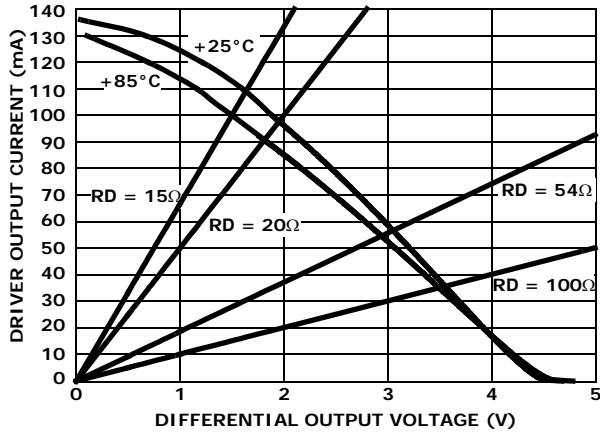

FIGURE 8. DRIVER OUTPUT CURRENT vs DIFFERENTIAL OUTPUT VOLTAGE
- See Figure 8 for more information, and for performance over-temperature.
Figure 8, details the transmitter's V_{OD} vs I_{OUT} characteristic, and includes load lines for six (20 Ω) and eight (15 Ω) 120 Ω terminations. The figure shows that the driver typically delivers 1.65/1.5V into 6/8 terminations, even at the worst case temperature of +85°C. The RS-485 standard requires a minimum 1.5V V_{OD} into two terminations, but the ISL315xE delivers RS-485 voltage levels with 3x to 4x the number of terminations.